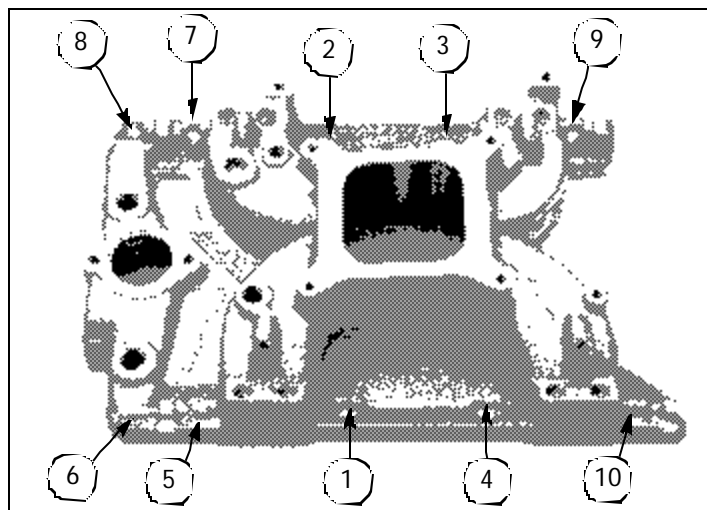

Figure 1 - Bolt Tightening Sequence
3. Then torque all bolts circled in Figure 1 to 25 ft./lbs. *See Figure 1 for proper sequence.*